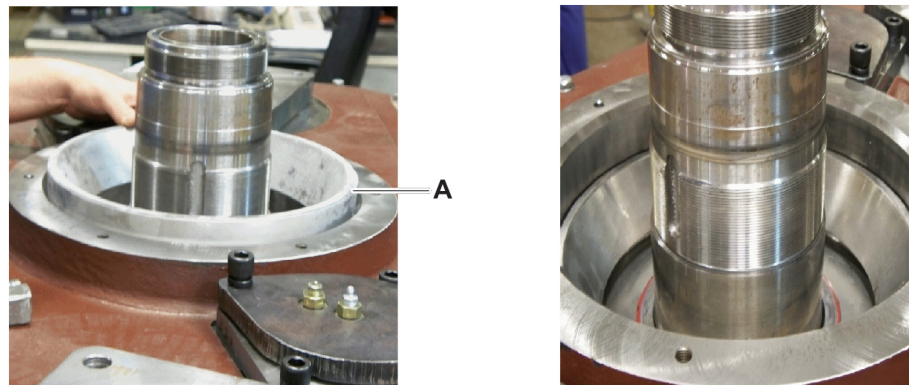

Figure 1
1. Press the frozen upper spindle bearing cup (Figure 1, item A) into the housing cover. Make sure that the bearing cup is seated tightly against the mounting surface in the housing cover.